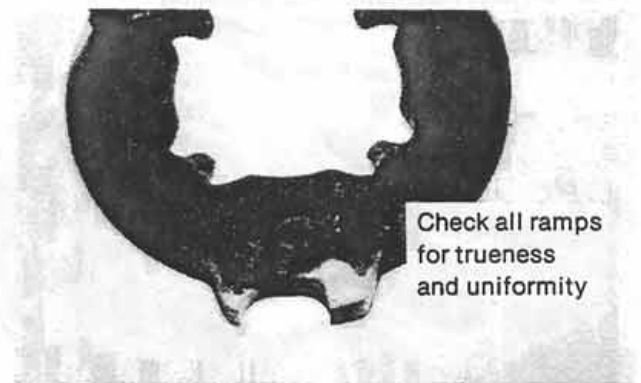

Figure 13:
6. With the actuator disassembled, inspect the wear faces as described in step 4. Proceed by inspecting the ramps of actuator plates (Fig. 13). If "pockets" are worn into the ramp surfaces, replace the disc(s) as required.